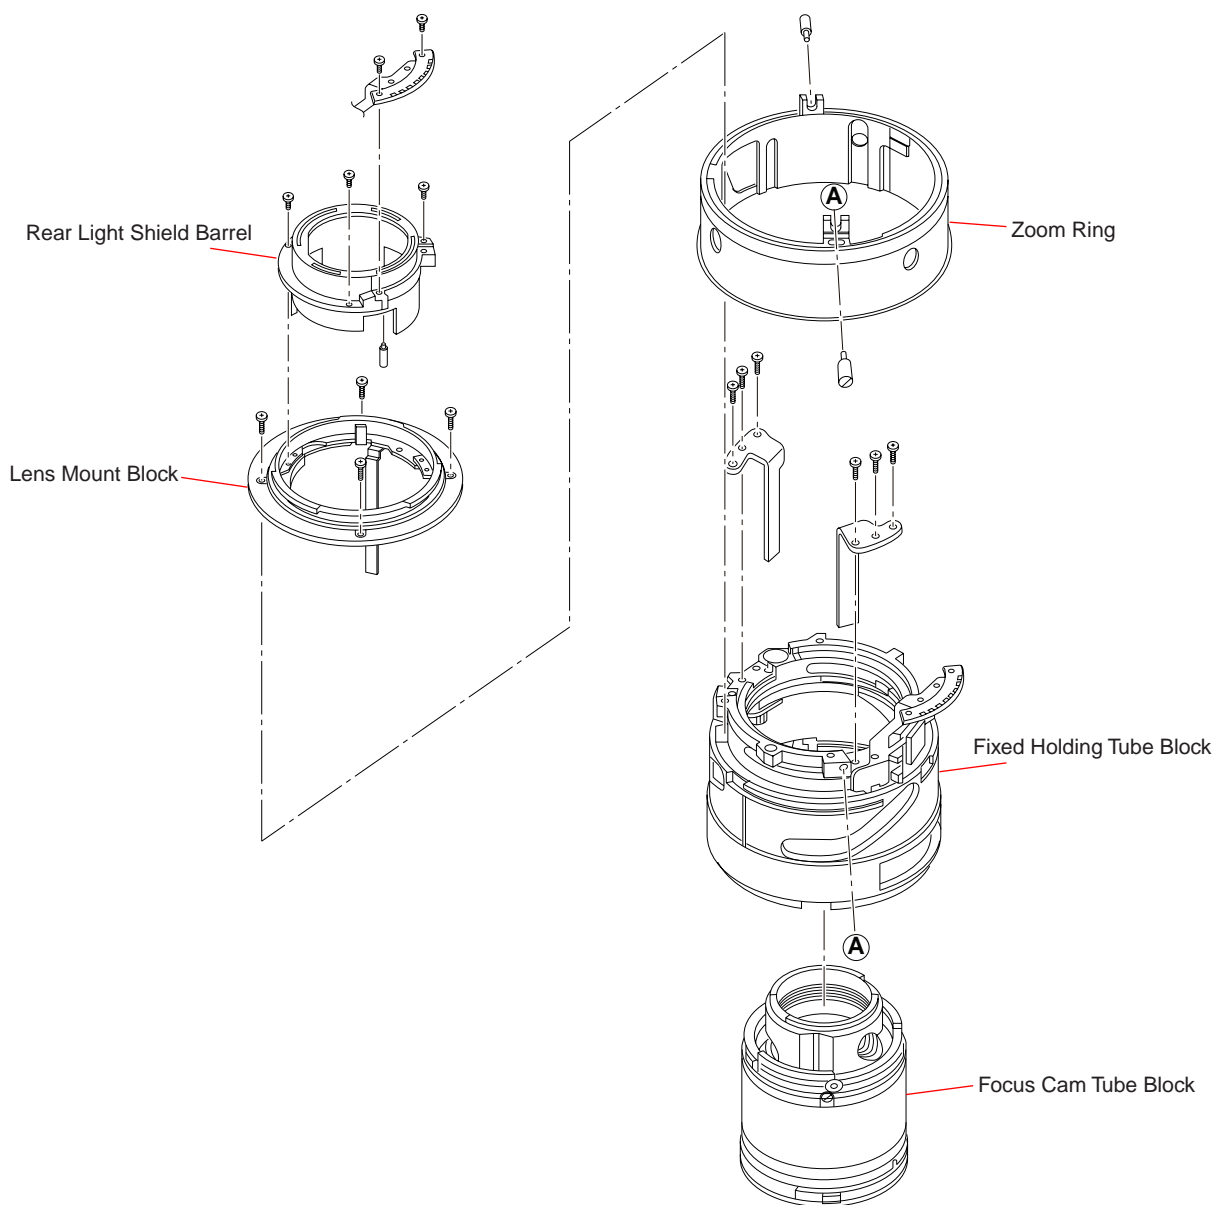

Fig.4-2-8
- 1) Remove the 2 group lens block from the focus cam tube block and assemble parts shown in Fig. 4-2-8 in it.